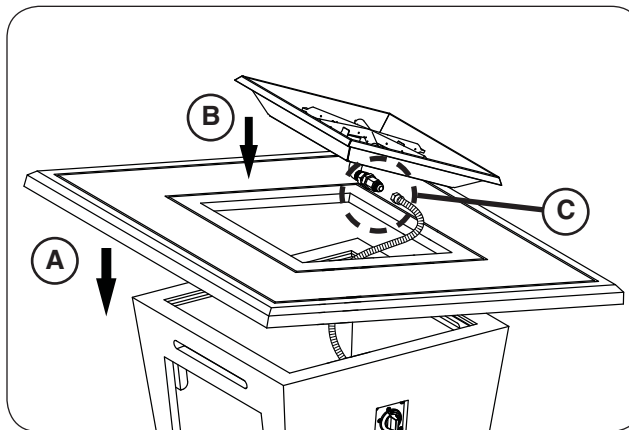

Fig. 21-3 Place top, burner, and connect flex
3. **CAREFULLY** place the top on the unit (see Fig. 21-3, A).
4. Drop the burner assembly into the opening in the center of the firetable top, with the two burner pan holes facing toward the door (see Fig. 21-3, B).
5. Locate the flex connector (marked OUT) that is coming off the valve assembly. Route it to the connection found on the underside of the burner assembly and connect. Tighten securely. See Fig. 21-3, C.